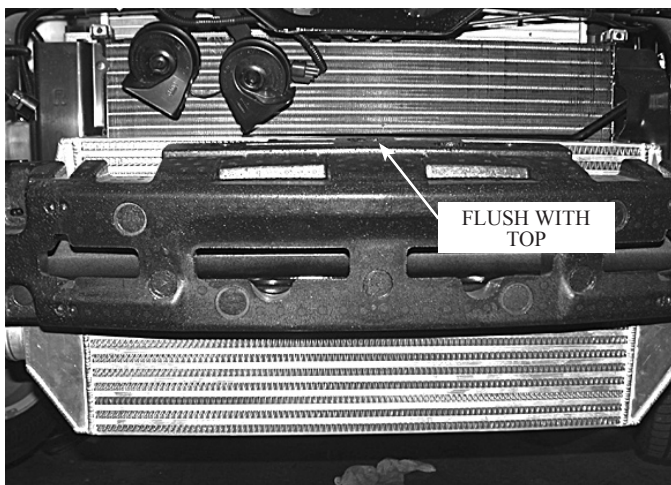

Fig. 8G-b
2. Loosely install the short ends of the two 90° rubber elbows onto each end of the charge cooler using the supplied #48 hose clamps. (See Fig. 8G-c.)